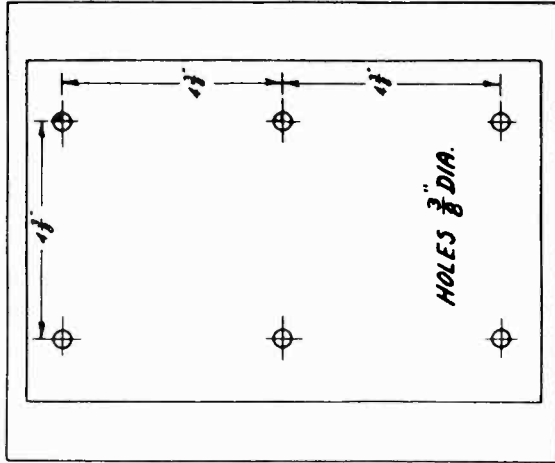

Fig. 2—Location of Mounting Holes
I. F. Adjustment Set the signal generator for a signal of 175 KC. Connect the output of the signal generator through a .05 mf. condenser to the rotor of the R.F. interstage section of the tuning condenser. (See Fig. 2 for location of this section.) Connect the ground lead of the signal generator to the chassis. The chassis should be in the case. Set the volume control at the maximum position. Attenuate the signal from the signal generator to prevent the overloading of the AVC.